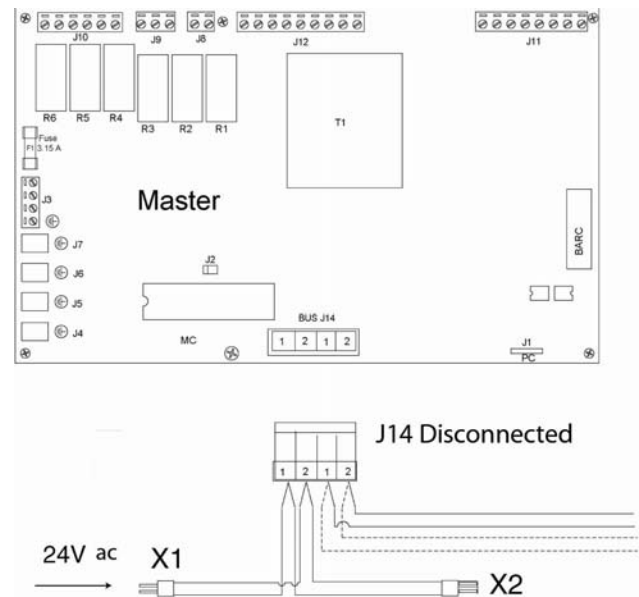

Figure 27
- terminal X1 or terminal X2 which are part of the cabling of the J14 connector disconnected in point a) of this procedure must be connected to a 24V ac power supply (see Figure 27).